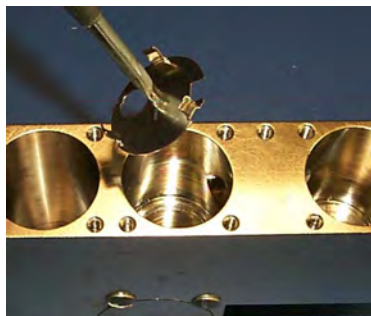

Figure 4-15 Ground Slit Plate
5. Remove the ground slit plate (Figure 4-15) by placing a thin, slotted screwdriver snug into the slot and carefully twisting and prying with the screwdriver.